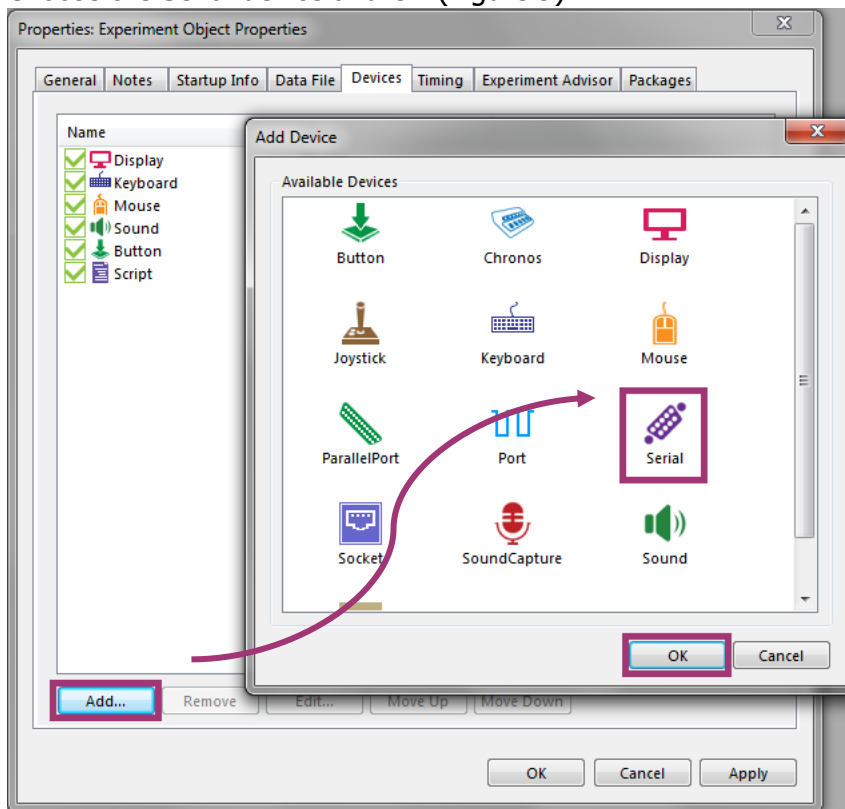

Figure 9: E-Prime Add Device Window
- 4) Choose the Serial device and OK (Figure 9).